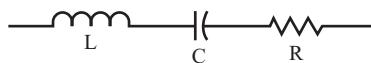

FIGURE 12.9
- 46.** In the circuit shown in Figure 12.9, $L = 1 \text{ mH}$, $C = 0.1 \mu\text{F}$, and $R = 10 \text{ ohms}$. Find f_r , X_L , X_C , Z , Q , and the bandwidth. _____